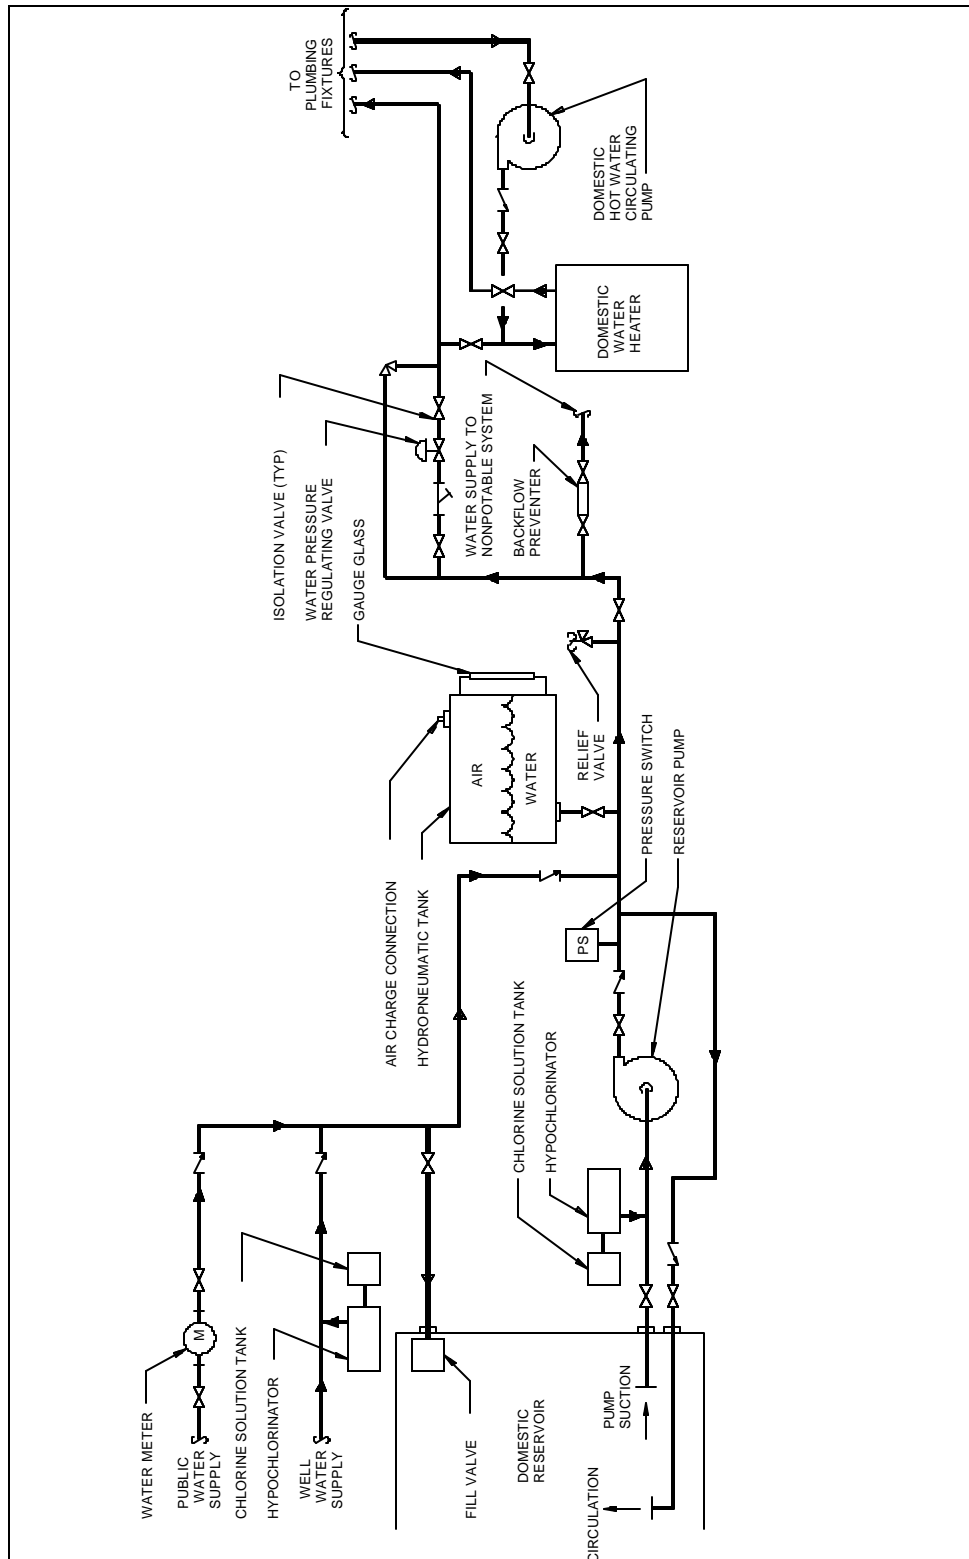

Figure 12-1. Domestic water system with reservoir storage
(1) An example of a typical domestic water system with reservoir storage (under normal operation) is shown on figure 12-1. In this arrangement, under normal conditions, the plumbing fixtures are supplied with water directly from the public water supply. The public water supply is metered and then distributed throughout the facility. The supply of water to equipment and uses that may contaminate the domestic system is provided through a backflow preventer. The water downstream of the backflow preventer is referred to as nonpotable, and is not for human consumption.
(2) During periods when the public water system is out of service, water is drawn from the reservoir and supplied to the facility through the use of the reservoir pump (emergency operation). The pump is controlled by a pressure switch, and system pressure is maintained by the hydropneumatic tank as the pump cycles. Check valves in the system prevent water flow back into the public system when the reservoir pump is operating and prevent backflow through the pump when it is not operating. The reservoir is kept filled with water when operating from the public system; however, the reservoir water must be pumped out and refilled on a regular basis to prevent stagnation and contamination of the stored water.